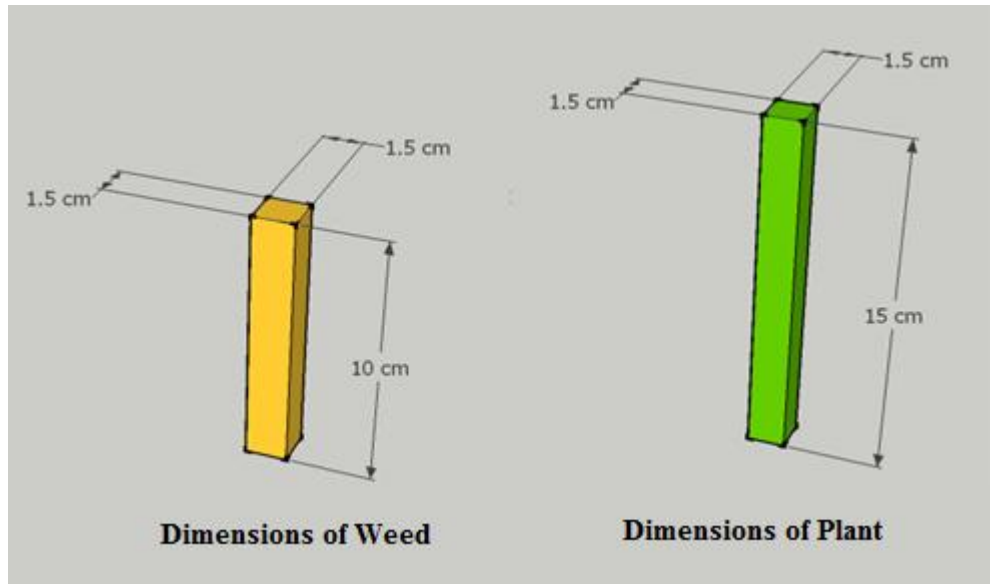

Figure 7: Dimensions of Weeds and Plants
4. Dimensions for weed - 1.5cm x 1.5cm x 10cm and that of plant - 1.5cm x 1.5cm x 15cm as shown in Figure 7.